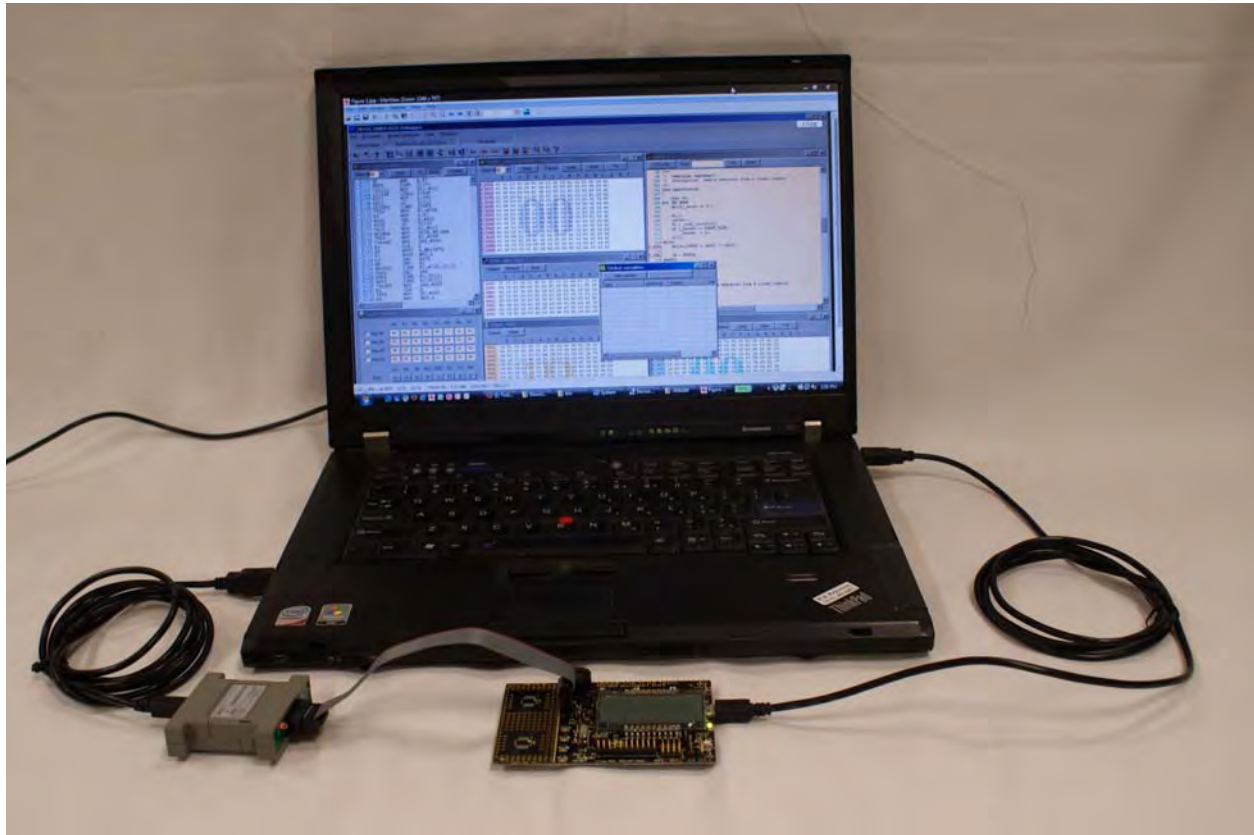

Figure 15. An Example Setup
4. When the installation is complete, plug in the Mini-B connector of the second USB cable into the Board, and the larger A connector into the USB port of your PC. Refer to Figure 15 on page 19 for guidance.
Figure 15 shows an example of a completed hardware and software setup.